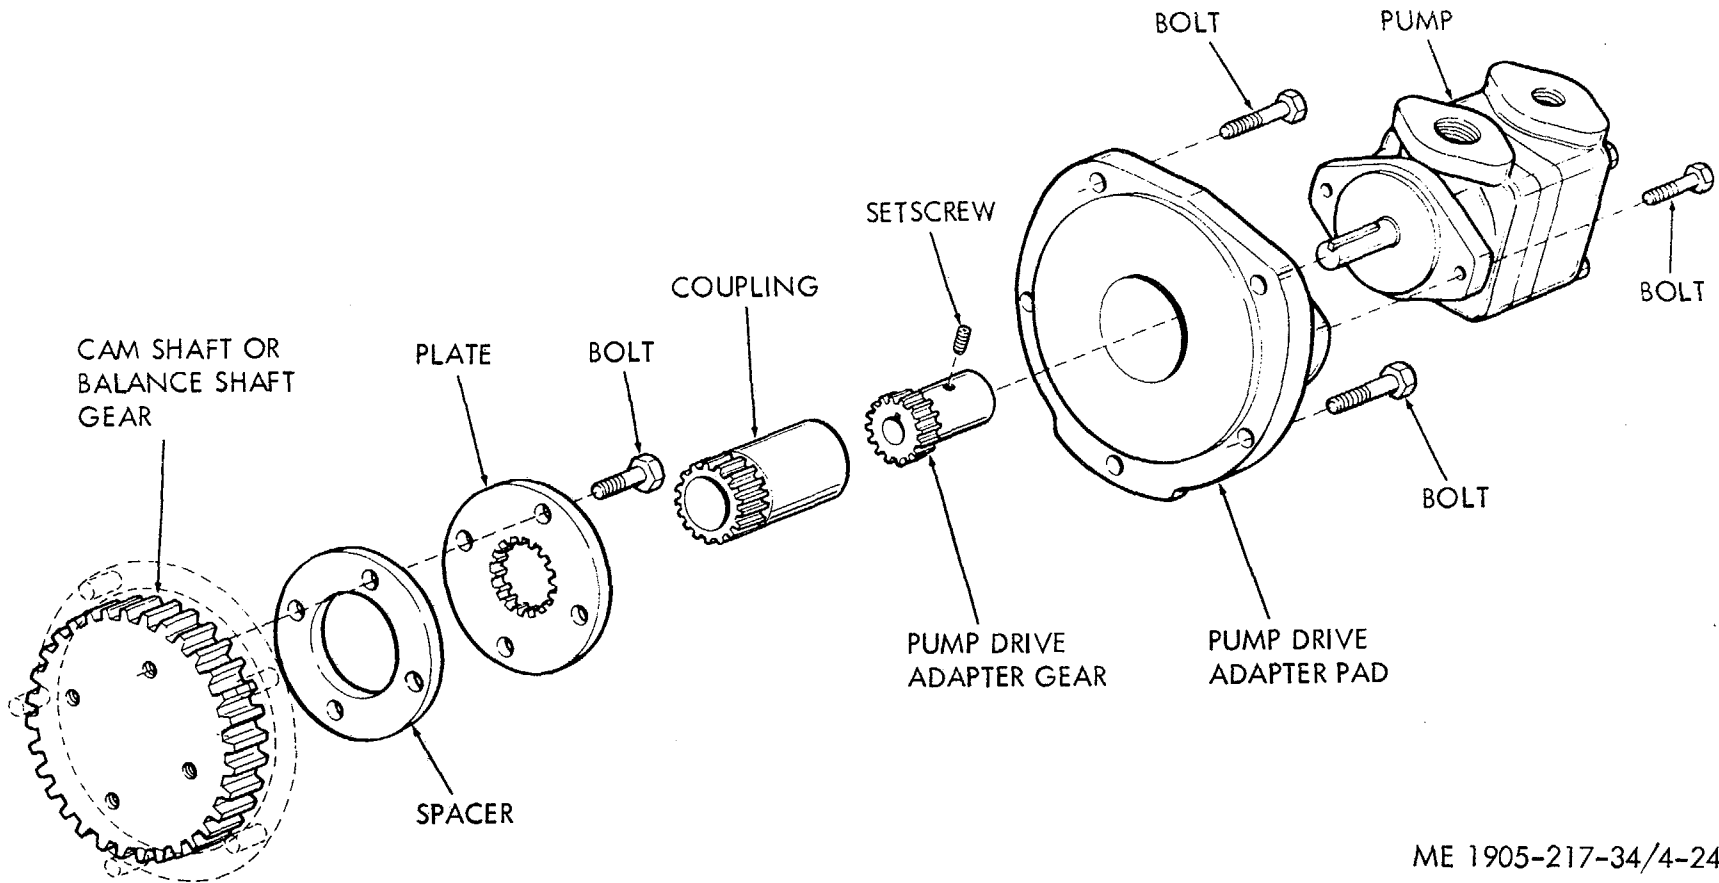

Figure 4-24. Steering pump drive adapter assembly, removal, disassembly, reassembly, and installation.
(1) Remove the hydraulic pump (TM 55-1905-217-12, para 4-61).
(2) Refer to figure 4-24 and remove the drive adapter assembly components.
(1) Refer to figure 4-24 and install the pump drive assembly and the pump.
(2) Accurate positioning of the adapter gear on the pump shaft is necessary for proper alignment of the drive components.